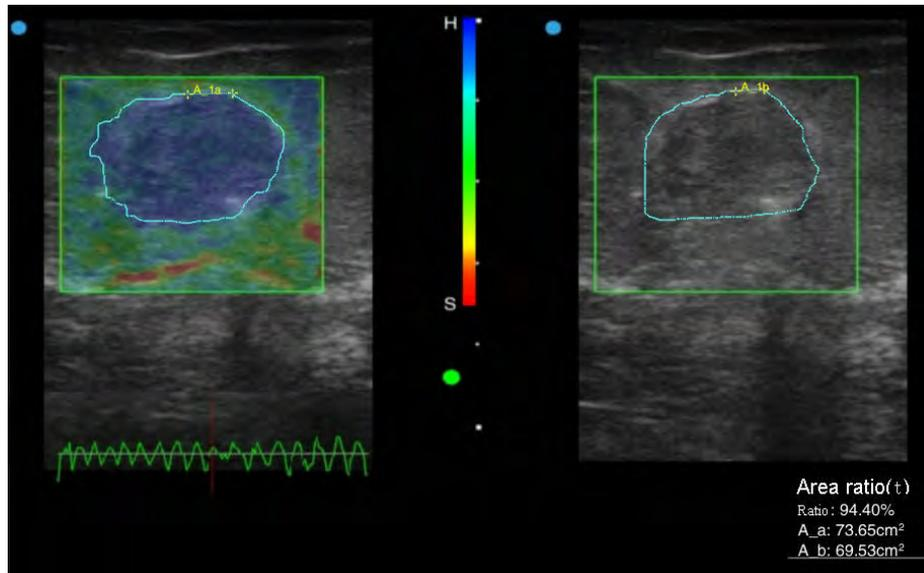

Fig. E-6 Measuring the elastography area ratio
6) Move the cursor onto the injured area in the B-mode image and draw the injured area using the method described above, as shown in Fig. E-6.